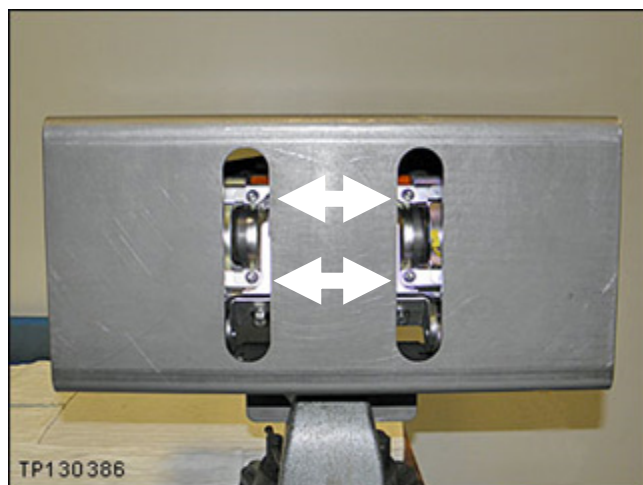

Figure 15
21. Remove the 4 nuts from the module that hold the inflator in place (see Figure 15).